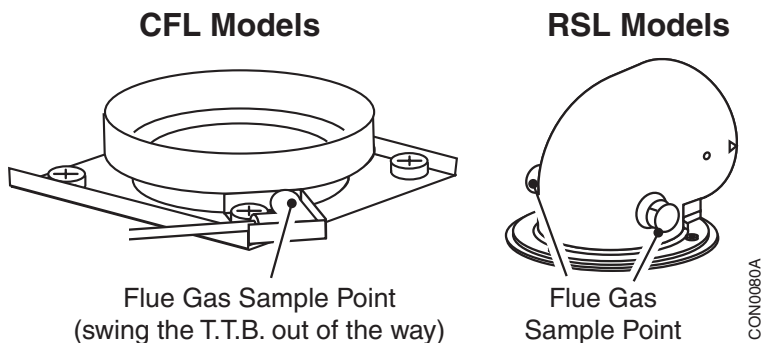

Fig. 24
- 2. Re-fit the front cover, plinth, top cover and controls panel (see Fig. 24, page 26).
Loosen the screw securing the Products Discharge Safety Device (TTB) and swing it away from the flue gas sampling opening, (see Fig. 24). After operating the appliance for 5 minutes take a lighted smoke match and hold it at the entry of the opening. *The majority of the smoke should be drawn into the flue.*